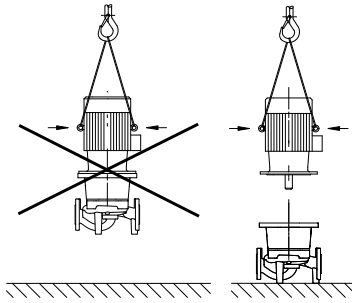

Fig. 4: Transporting the motor
- The transport eyes on the motor are only for transporting the motor, and are not approved for transporting the complete pump (fig. 4).